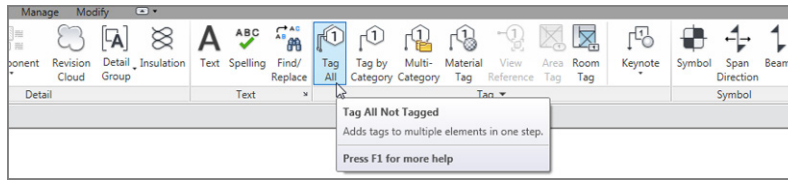

FIGURE 11.68: The Tag All button on the Annotate tab
3. On the Annotate tab, click the Tag All button, as shown in Figure 11.68.